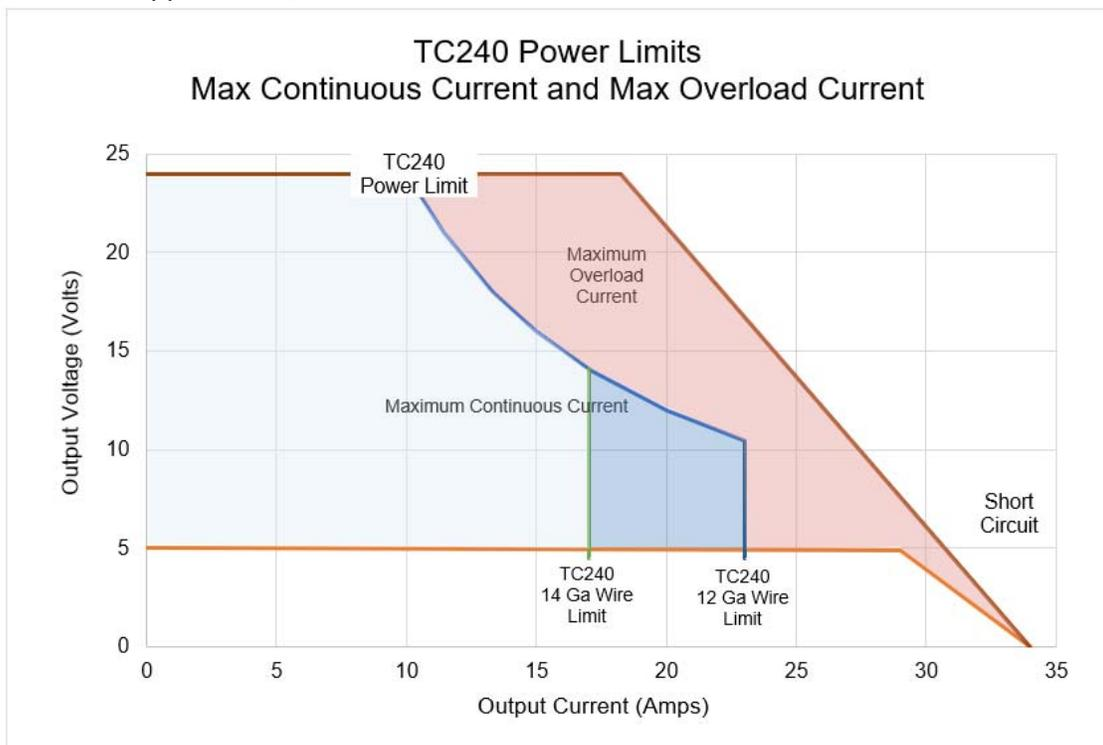

Figure 4.1
Use of PTFE, ETFE, TFE, Teflon, or Tefzel insulated wire is recommended for aircraft use. Recommended wire size depends upon the model of TC240 being installed and the maximum continuous current required from the output of the TC240 in your aircraft installation. Use Figure 4.1 as a reference.
- For pins B and C use 12 or 14 AWG stranded or solid wire. Note maximum TC240 continuous current on Figure 4.1 depends upon wire size.
- For pin A use 12 or 14 AWG stranded or solid wire. If the output voltage setting is less than 10 VDC, 12 AWG wire is recommended to minimize voltage drop in the wire. Note maximum TC240 continuous current on Figure 4.1 depends upon wire size.
- For pin C use 12 or 14 AWG stranded or solid wire. If the output voltage setting is less than 10 VDC, 12 AWG wire is recommended to minimize voltage drop in the wire. Note maximum TC240 continuous current on Figure 4.1 depends upon wire size.
The TC240 continuous rated output current, and thus power, is a function of the user-selected output voltage. If the selected output voltage is lower than 9 VDC, total power output is limited by individual component ratings, including the connector pins. See Figure 4.1 for maximum continuous and temporary output current for a given output voltage.
The left side of Figure 4.1 shows the continuous current region of the TC240 (in blue). The area to the right of the Power Limit line shows the temporary current capability of the TC240 (in red). The continuous rated current can be exceeded for short periods of time in this region to accommodate surge conditions and fault conditions. This also allows the TC240 the capability to trip slow-acting thermal circuit breakers under fault and short-circuit conditions without degradation.
The TC240 DC/DC converter has a maximum output current. As the load current increases beyond the maximum continuous rating, a point will be reached where the TC120 output voltage begins to drop. At a full short-circuit the input current to the TC120 is low but the output current is approximately 34 Amps (See Figure 4.1). The TC240 can withstand continuous short-circuit operation without damage.